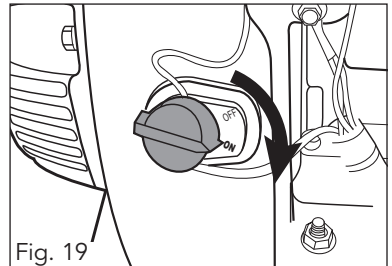

Fig. 19
- 1. Engine on/off switch** – Move the engine on/off switch to the ON position (fig. 19).